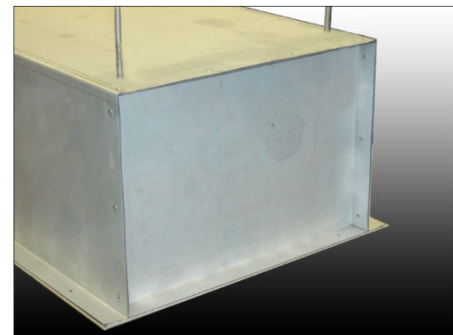
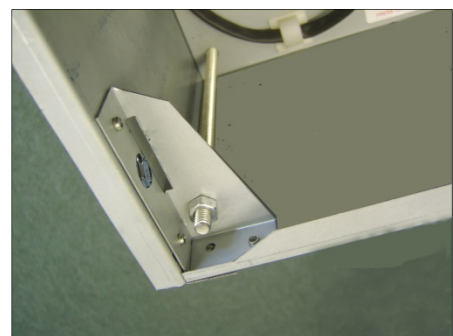

Fig 2
Fig 3
**Step 2** Fix M8 or 5/16 UNC threaded rods (not supplied) through the 2 holes at each end in the top casing (see Fig 2). Feed the rods through the casing and attach to fixing brackets near the bottom of the unit (see Fig 3, looking up into the air curtain). Use M8 or 5/16 UNC lock-nuts either side of the fixing brackets to secure the hanging rods.